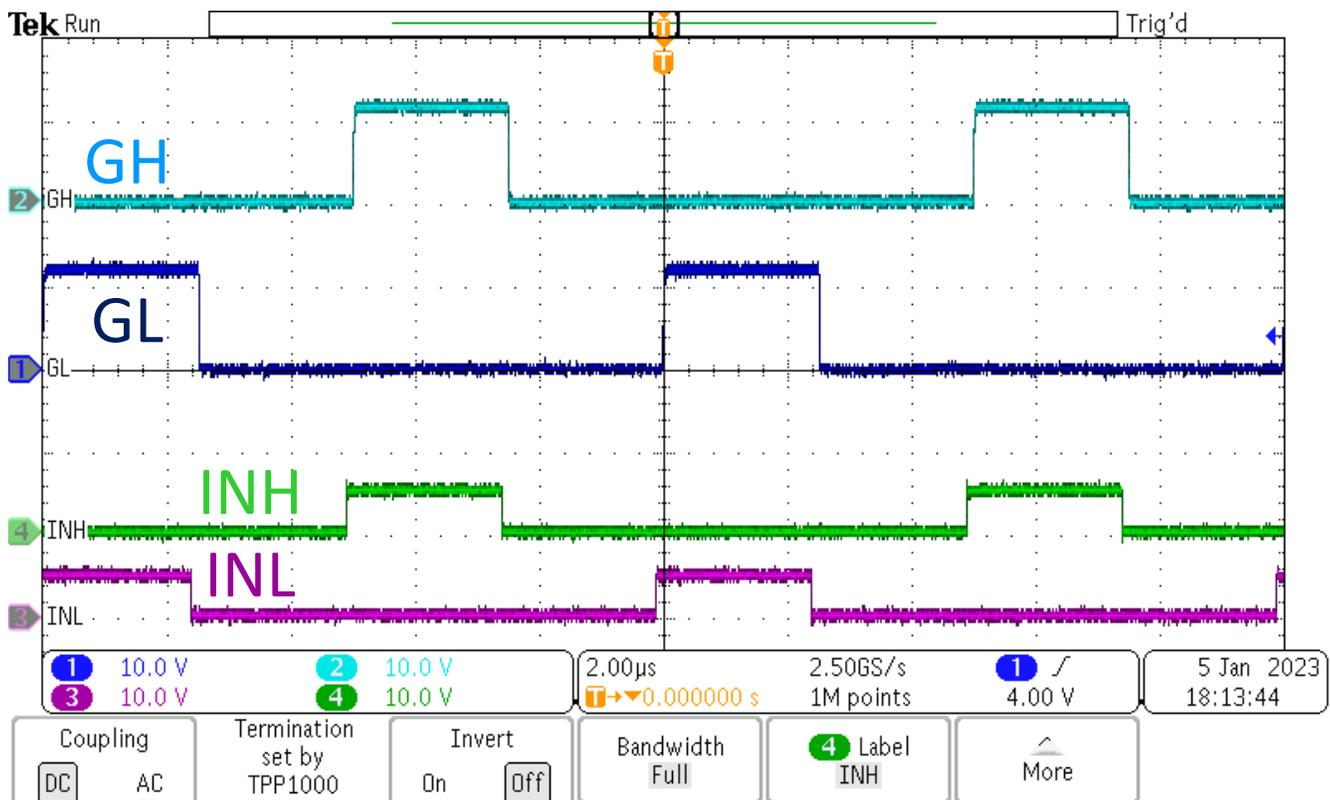

Figure 5-1. Example Input and Output Waveforms (green and magenta are PWM inputs, blue and dark blue are driver outputs)
- a. Stable pulse output on channel-1 and channel-2 in the oscilloscope, refer to Figure 5-1.